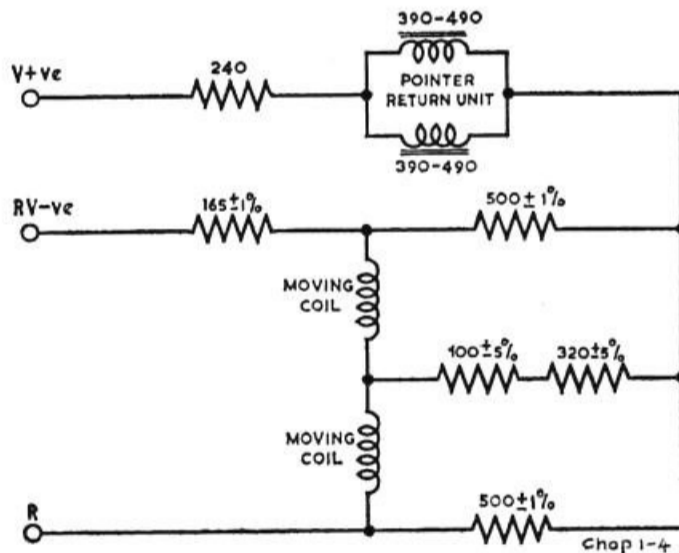

Fig. 2. Circuit diagram
2. The circuit diagram is shown in fig. 2 and connections to the indicator are made via three terminal screws V+, RV- and R.